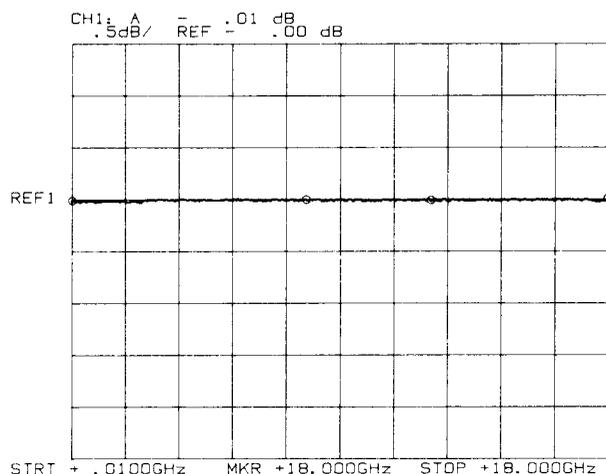

Figure 4-9. Detector Tracking M-MEM Trace
4. On the HP 8756A, press **[SHIFT] [DISPLAY]** to store the trace in memory. Press **[DISPLAY]** until the **M-MEM** LED is on. The display should be similar to Figure 4-9.